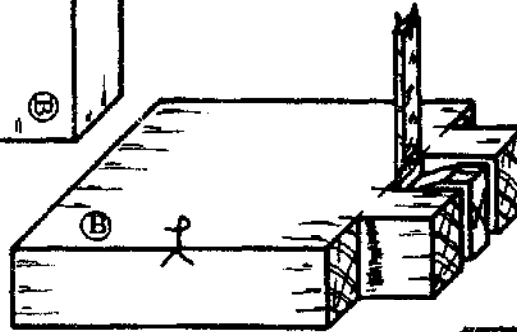

Fig. 6
- Chop out the waste by chiselling alternately vertically and then at an angle, making "V" cuts halfway through from each side (Figs. 6, 7, & 8).